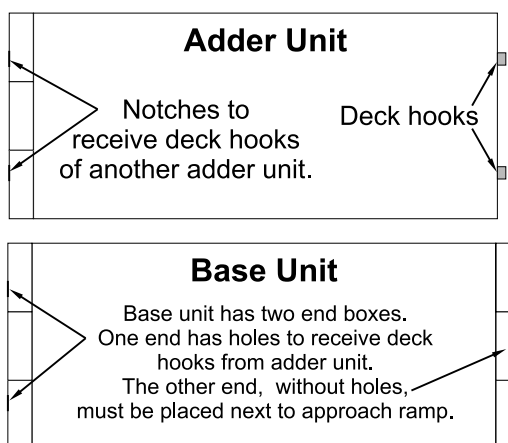

Figure 3
4. The BridgeMont truck scale platforms come in two configurations: the base unit and the adder unit. If you have a simple, 4-Weigh Bar scale, you will receive just a base unit. For each platform you add you will receive an adder deck. See Figure 3.